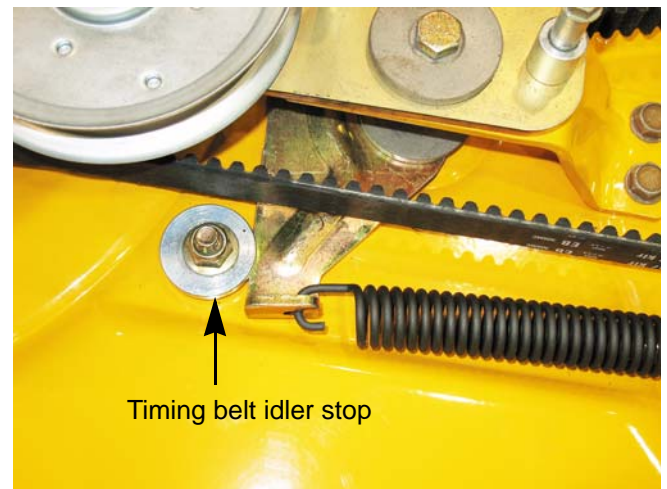

Figure 8.10
4. Remove the timing belt idler stop using a pair of 9/16" wrenches. See Figure 8.10.